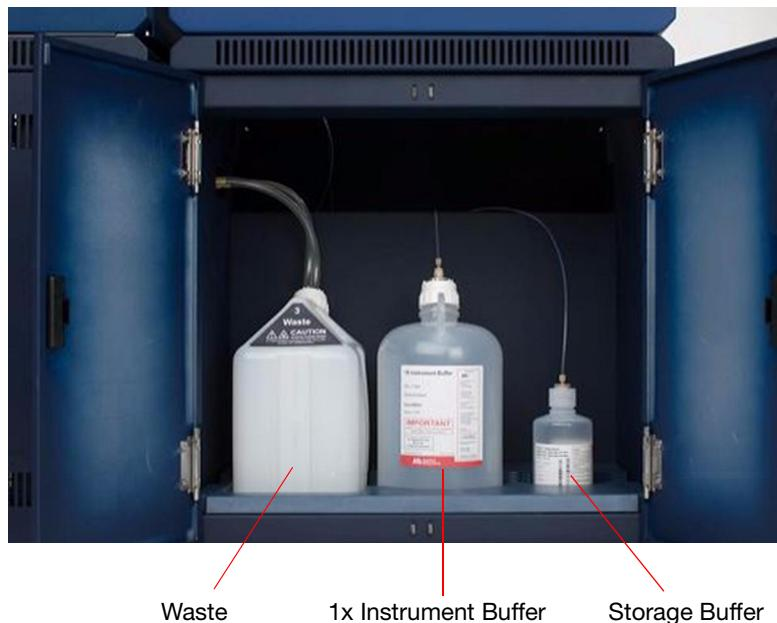

Figure 14 Positions of buffers and waste in the cabinet.
4. After the chiller temperature is < 10 °C, install the prepared 1X Instrument Buffer and Storage Buffer into the appropriate positions in the cabinet (see Figure 14).